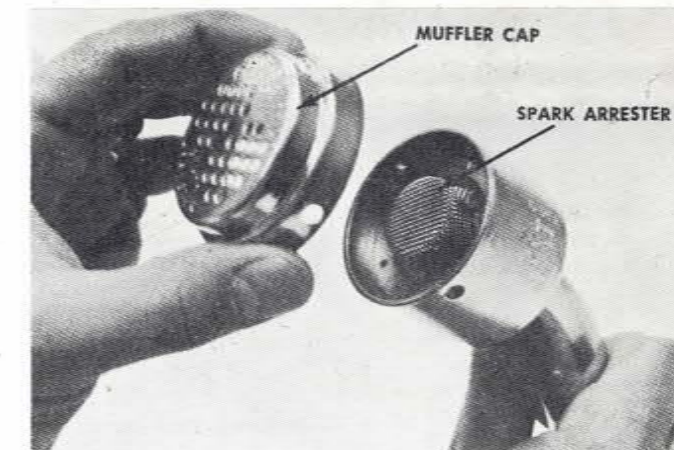

Figure 19
2. Remove muffler cap as shown in Figure 19.